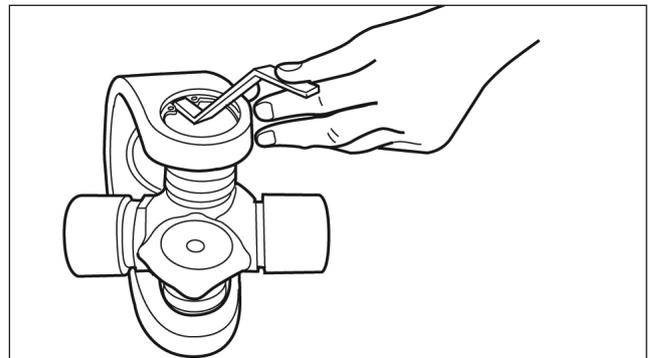

Fig. 4.18
4. Use a snap ring installation gauge to check that the snap ring is fully seated in the snap ring groove. Fig. 4.18